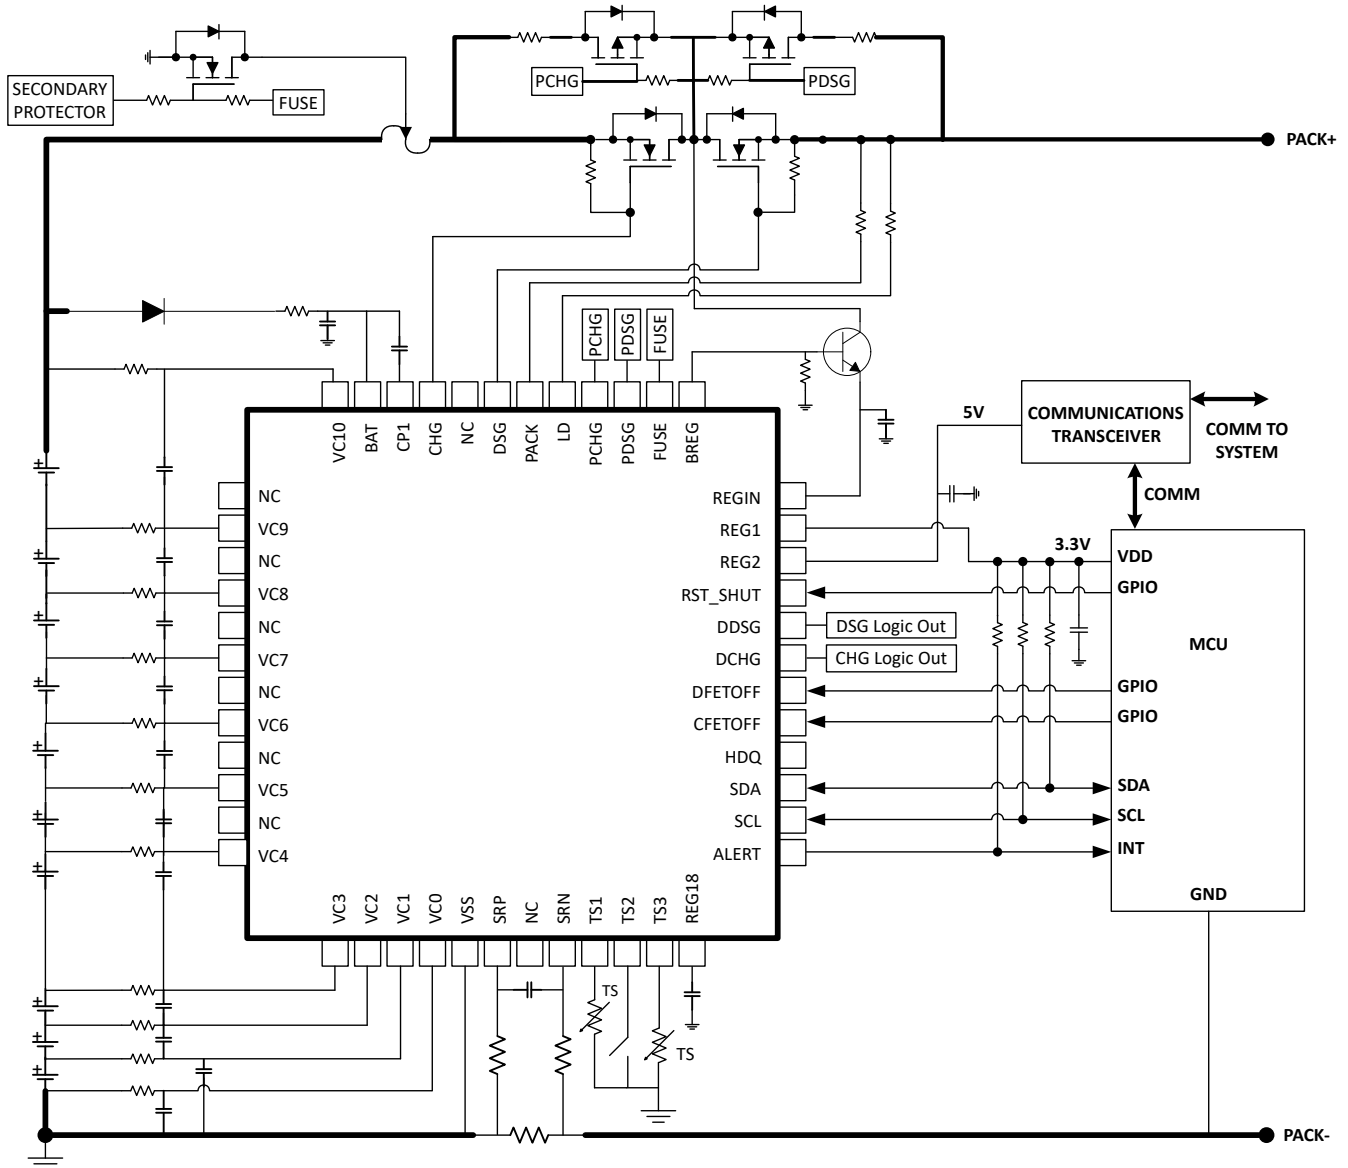

Figure 16-1. BQ76942 10-Series Cell Typical Implementation (Simplified Schematic)
Figure 16-1 shows a simplified application schematic for a 10-series battery pack, using the BQ76942 together with an external secondary protector, a host microcontroller, and a communications transceiver. This configuration uses CHG and DSG FETs in series, together with high-side PFET devices used to implement precharge and predischage functionality. See the following implementation considerations:
- Power dissipation, which can be a factor of the RDS(ON) rating of the FET, the FET package, and the PCB design.
- The overdrive level of the BQ76942 device charge pump should be selected based on RDS(ON) requirements for the protection FETs and their voltage handling requirements. If the FETs are selected with a maximum gate-to-source voltage of 15 V, then the 11-V overdrive mode within the BQ76942 device can be used. If the FETs are not specified to withstand this level, or there is a concern over gate leakage current on the FETs, the lower overdrive level of 5.5 V can be selected.
- A diode can optionally be included in the collector circuit of the BJT, in order to avoid reverse current flow from BREG through the base-collector junction of the BJT to PACK+ during a pack short circuit event. This diode can be seen in Figure 16-1 at D2.